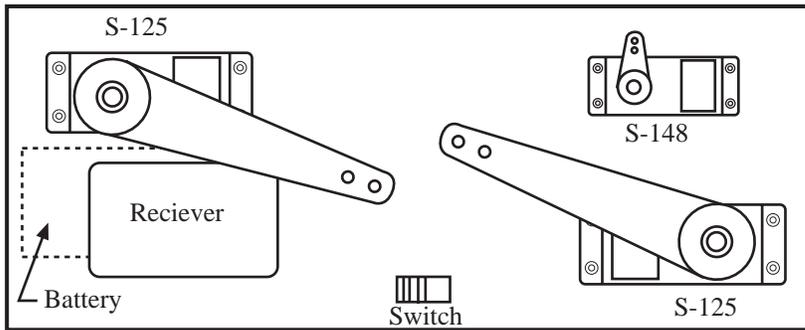

Figure 6. Insulate the new connections before stuffing everything back into the servo case. I use electrical tape.
8. Carefully push the new resistors up inside the servo case and reassemble the unit using the supplied sail winch arm (Figure 6).
Figure 6. Replace the plastic holder on the circuit board and resolder the center lead of the feedback pot to the pc board. Slide this assembly back into the case routing the wire pairs around the edge of pc board S202-1.